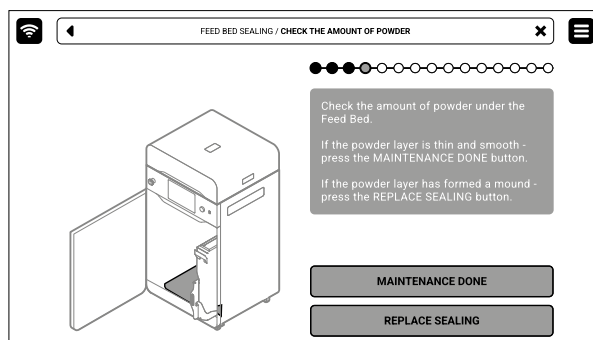

Fig. 12.32 Check the amount of powder under the Beds.
10. Check the amount of powder under the Feed Bed. If the powder layer is thin and smooth - press the **MAINTENANCE DONE** button (fig 12.32).
11. If the powder layer has formed a mound - press the **REPLACE SEALING** button (fig. 12.32).